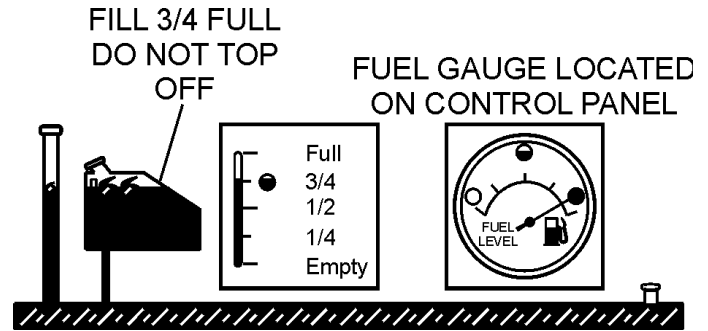

Figure 38. Full Fuel System
6. Figure 38 below reflects a full fuel system.